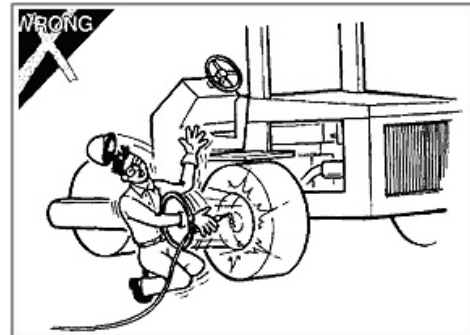

Figure 1-18
- When it is necessary to lift the roller, use a counterweight to prevent it from falling or Inclination. Never rely solely on a hydraulic jack for lifting (figure 1-18).
- Do not open the tire valve using your hand (figure 1-18). Use a gas needle. to gradually reduce tire pressure.